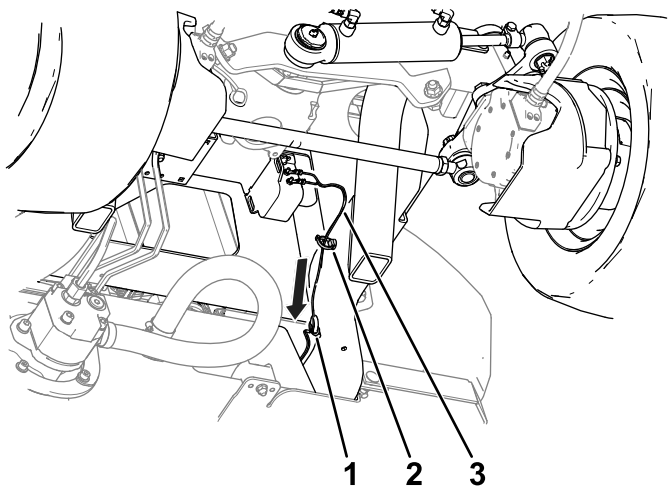

Figure 4
4. Use a cable tie and a push fastener to secure the wire harness to the machine frame (Figure 4).